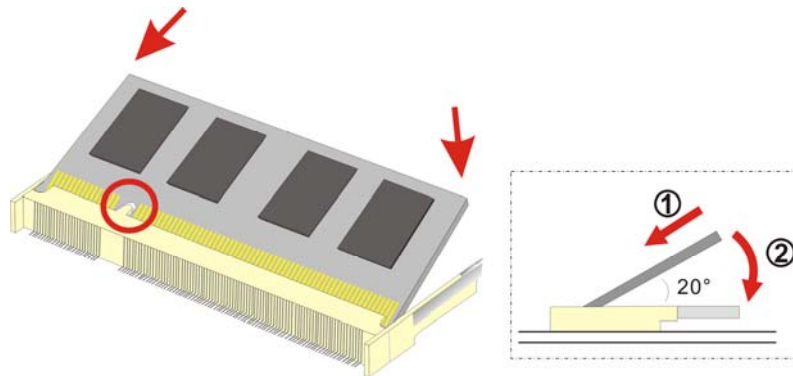

Figure 4-2: DDR SO-DIMM Module Installation
- Step 7:** Install the new DDR3 memory module by pushing it into the socket at an angle (Figure 4-2).
- Step 8:** Gently pull the spring retainer clips of the SO-DIMM socket out and push the rear of the DDR memory module down (Figure 4-2).